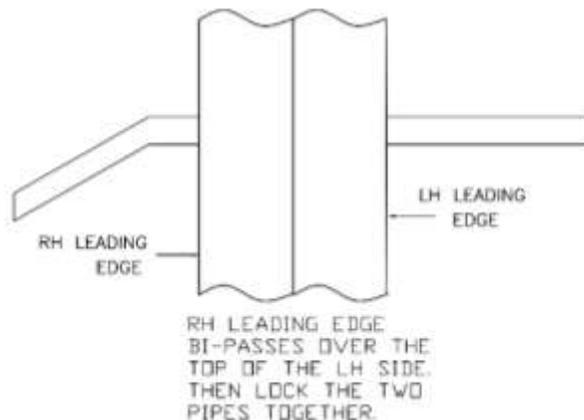

FIGURE 6
8. Fasten (2) fixed ends of curtain (See Fig. 6). Start at the top of the curtain, pull the curtain snugly to the vertical 2x 4, folding the curtain under if necessary to take up any slack. Install the aluminum strip over the material on the fixed edge. Using the roofing nails provided, nail the aluminum trim and the curtain to the 2 x 4. Nail every other hole on the strip.